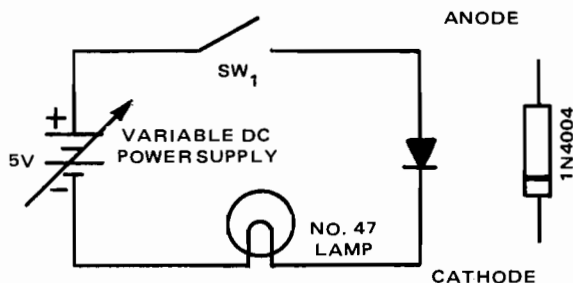

Fig. 13-1-2
9. A more graphic demonstration of diode conduction can be made with circuit shown in Fig. 13-1-2.